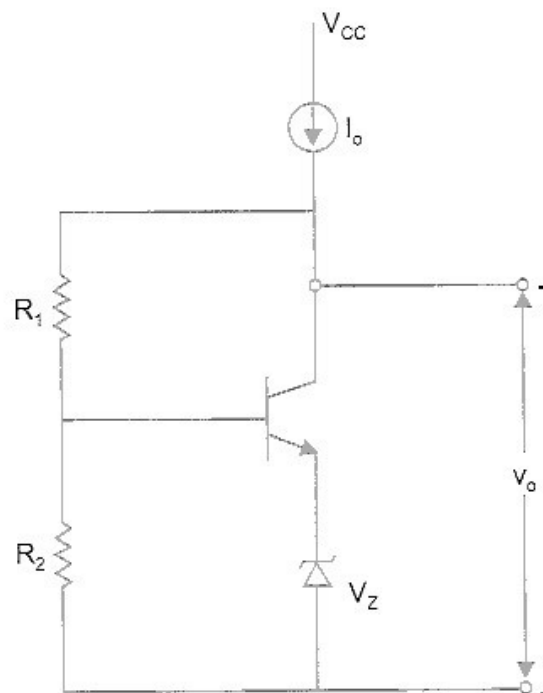

Fig. P. 2.19
2.19. For the circuit of Fig. P. 2.19, show that